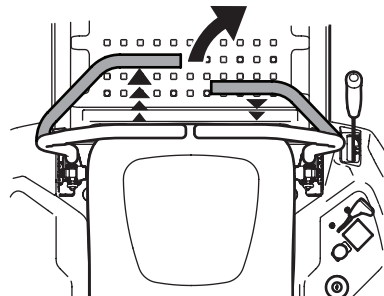

Figure 24
2. To turn to the right, move the right drive control lever rearward of the left lever. See Figure 24.